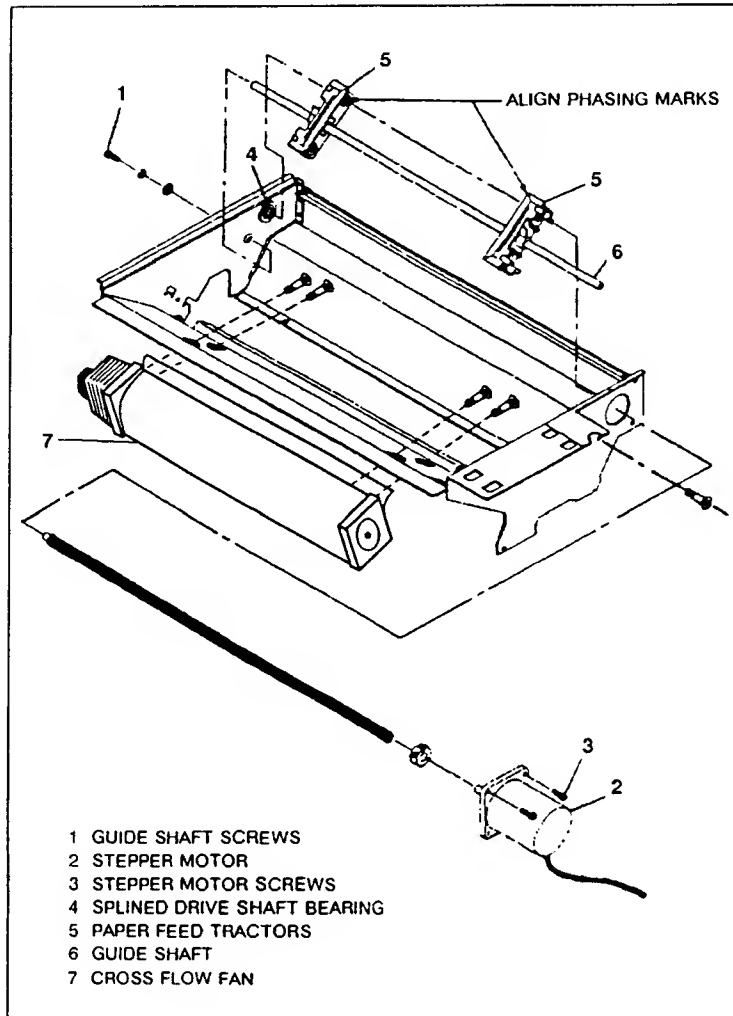

Figure 6-11. Paper Feed Tractors
- b. Remove the three 3 mm hex head screws securing the stepper motor to the printer weldment (see Figure 6-11, item 3).
- e. From the left of the printer, remove the one 3 mm hex head (or pozidrive) screw securing the tractor guide shaft to the side of the weldment (see Figure 6-11, item 1).
- d. Remove the four self-threading screws securing the Cross-Flow Fan to the printer weldment (Figure 6-11).